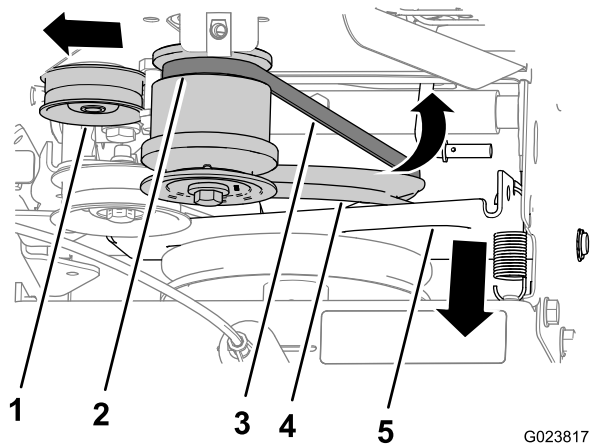

Figure 41
- Pivot the Traction-control bracket and traction pulley forward (Figure 41).
- Pull the tension pulley outward (Figure 41).
- Slip the belt off the rear groove of the engine pulley and remove the belt from the machine (Figure 41).
- Align the belt into the groove at the bottom of the traction pulley (Figure 41).
- Align the belt into the rear groove of the engine pulley (Figure 41).